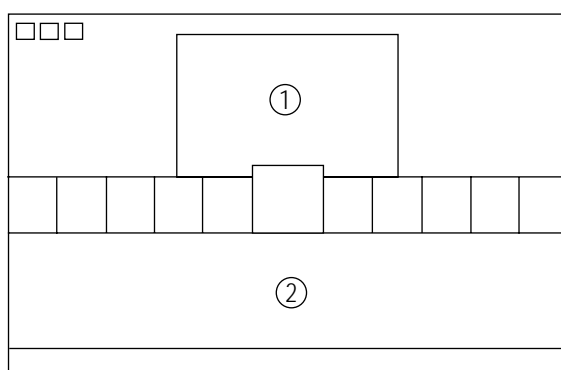

Fig. 4-4
1. Set SBT to 1.3 ± 0.2 fL in the Factory Service Mode with using CA100. See Fig. 4-4 ②.
1. Set SCT to 55 FL (20" . 21"), 65 FL(14" .16") in the Factory Service Mode with using CA100. See Fig. 4-4 ①.